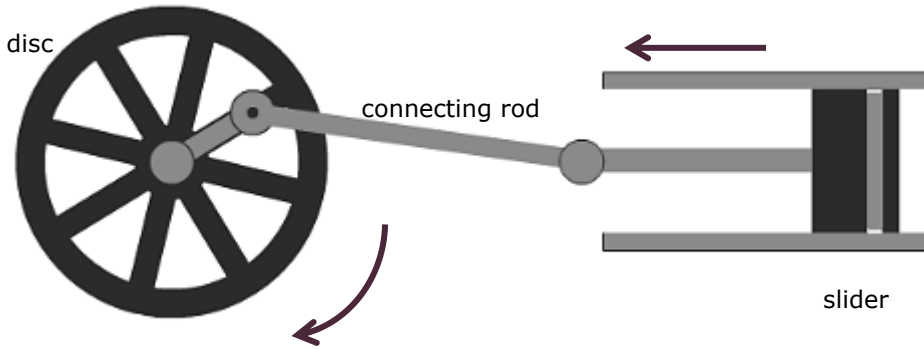

Figure 1a: A two linkage systems shown with the slider at the maximum position
c. Figures 1a and 1b show a two linkage system, that is composed of a disc that rotates anticlockwise, a slider which slides inside a tube and a connecting rod which joins the parts together. Figure 1a shows the system when the slider is at the maximum position whilst Figure 1b shows the system when the slider is at the minimum position. Describe the output for **each** linkage given in the Figures.